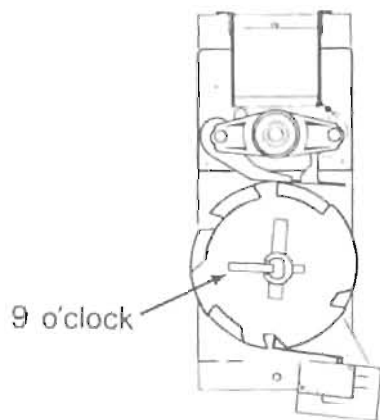

Fig. 7.
4. Install the vending cam onto the front shaft of the motor making sure the lock tab is at the 9 o'clock position. See Fig 7.